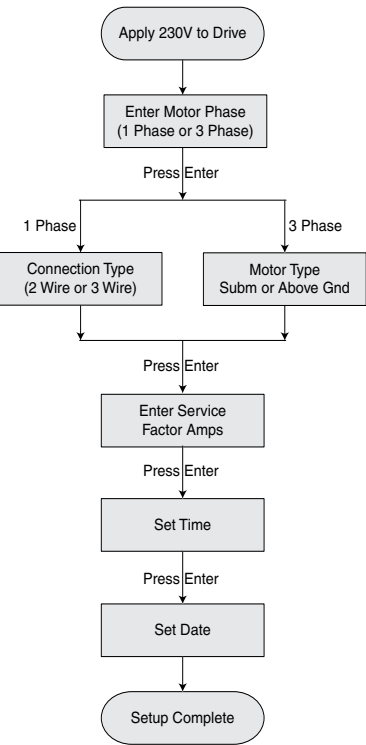

Figure 10 - Drive Setup Guide.
- 1. **Program the Drive:** Apply power to the PENTEK INTELLIDRIVE. *Setup Guide* will appear in the display. Follow keypress sequence shown in Figure 10.